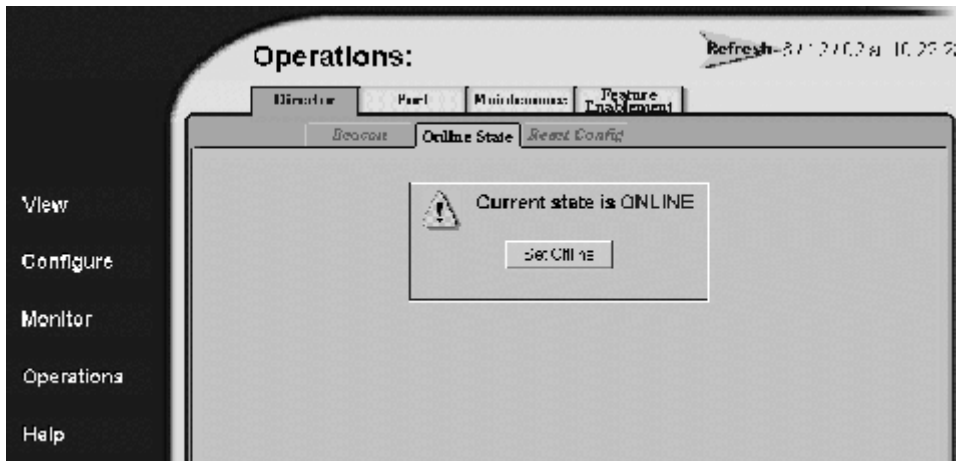

Figure 3–6: Current State page
2. At the **Operations** page, click the **Online State** tab. The **Current State** page displays, as shown in Figure 3–6.